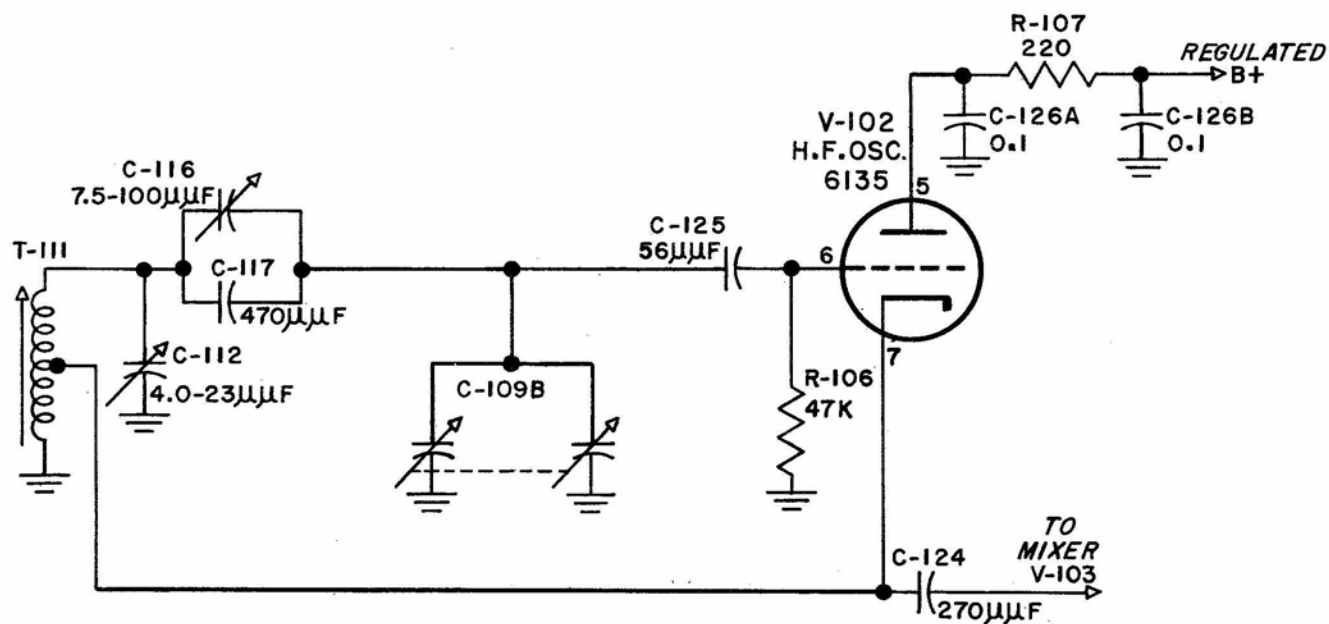

Figure 2-3. H.F. Oscillator V-102, Simplified Schematic Diagram
c. H.F. OSCILLATOR V-102 CIRCUIT DETAILS. (See Figures 2-3 and 7-13).—High-frequency oscillator V-102 is a type 6135 triode in a conventional Hartley oscillator circuit with the plate of the oscillator tube at R.F. ground potential. Switch section S-101C selects the oscillator tuned circuit for the band in use and at the same time shorts out the unused tuned circuits. This switch also connects section C-109B of the Main Tuning capacitor into the selected oscillator tuned circuit. In the SW3 position only the large stator of C-109B is connected into the oscillator tuned circuit of that band, the small stator being shorted to ground. Simplified schematic diagram, Figure 2-3 illustrates the signal circuits with the Band Selector switch in the BC position. The oscillator tuned circuit is composed of oscillator coil T-111, variable trimmer capacitor C-112, padder capacitor C-117 in parallel with variable padder capacitor C-116, and section C-109B of main tuning capacitor C-109. C-109B determines the frequency of the oscillator as the receiver is tuned to signals in normal operation. Variable inductor T-111, variable trimmer capacitor C-112 and variable padder capacitor C-116 are adjusted for proper tracking of the oscillator with the R.F. amplifier and mixer tuned circuits. Capac-